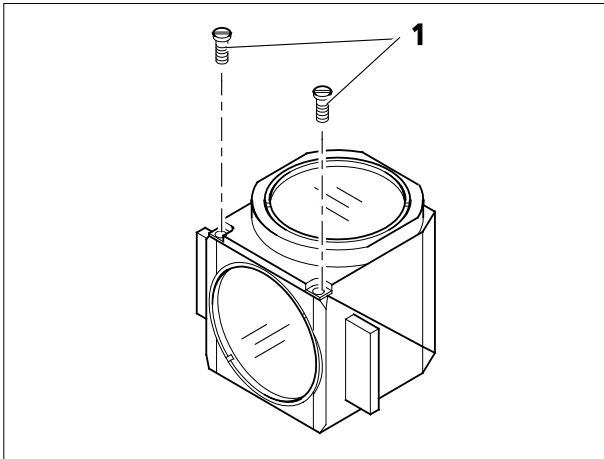

Figure 3-37 Opening a beam splitter
- Unscrew the two slotted screws (Figure 3-37/1) using a screwdriver.